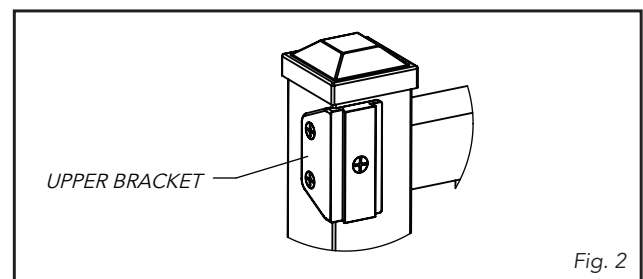

Fig. 2
2. Install the Upper Bracket using (3) flat head screws as near to the top of the Fence Post as possible (Fig. 2).